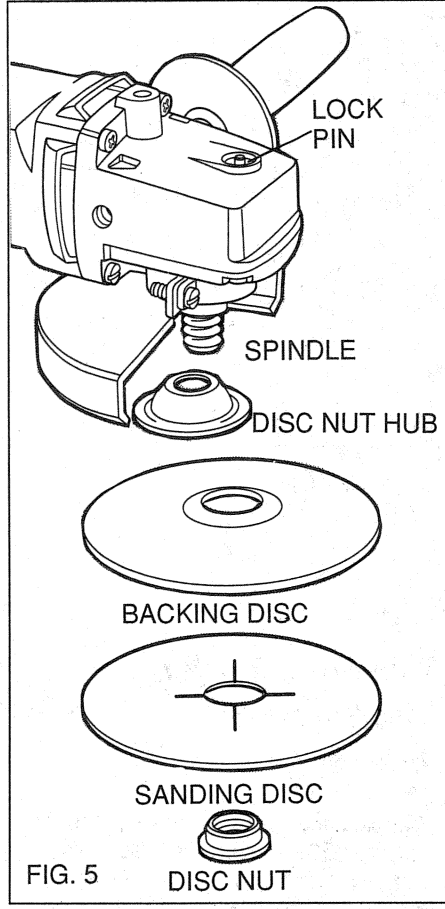

FIG. 5
Black & Decker Accessory Catalog Number 50937 (not included with unit). Backing Flange and Disc Nut shown in Figure 5 are included in 50937
4. Depress the spindle lock pin to lock the spindle. Grasp the sanding disc and the fiber backing disc and turn until the disc nut is tight. See Figure 5.